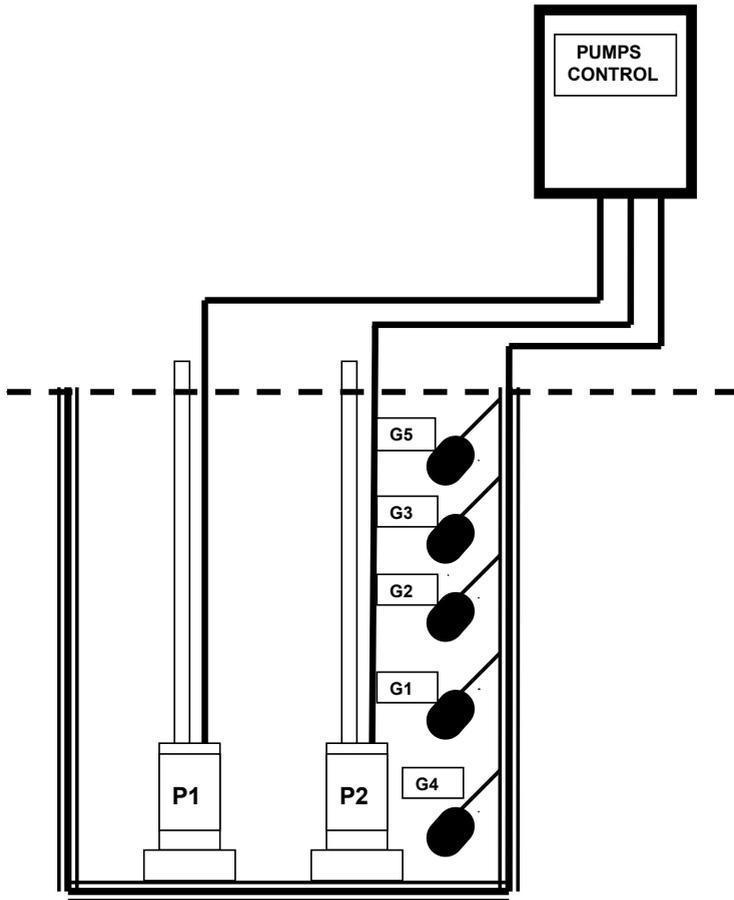

Fig. 3
9. Connect to terminal MT9 a floating-switch G1 normally opened as in Fig.3. This floating will alternate the electropumps activation when in automatic operation or directly electropump P1 when in manual operating.
10. Connect to MT13 terminal a floating-switch G2 normally opened as in Fig.3. This switch